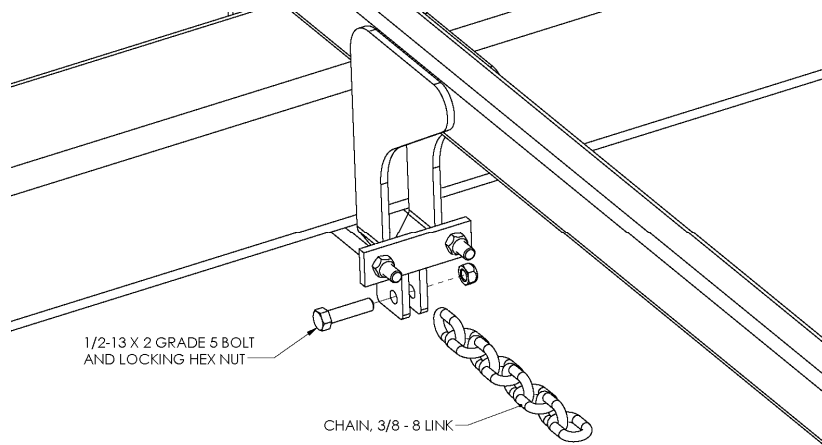

Figure 10
1. Bolt an 8-link pull chain (10-link for 8-bar section option) in between the lift arm pull points Use 1/2" x 2" grade 5 bolts and locking hex nuts. Refer to Figure 10.